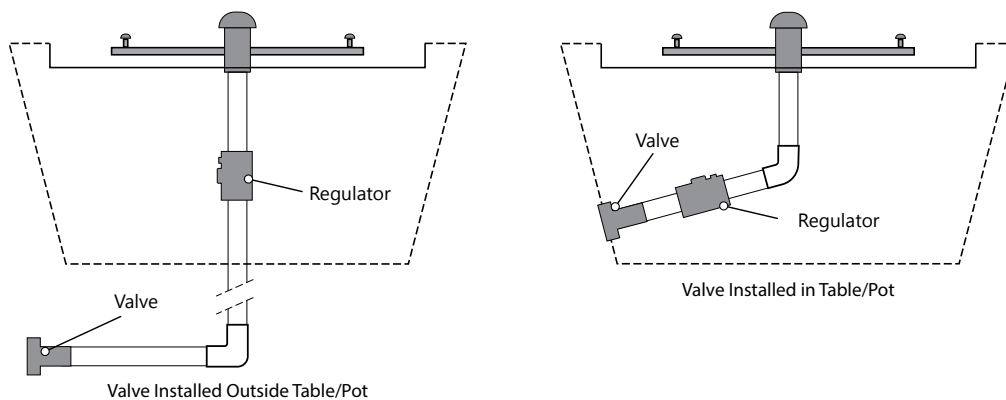

FIGURE 1: VALVE KEY LOCATION
- Recommended Clearances: Sides 4 ft / Top 10 ft: Combustibles/structures not to be closer than 4' on the horizontal plane, 10' overhead. (FIG 1).